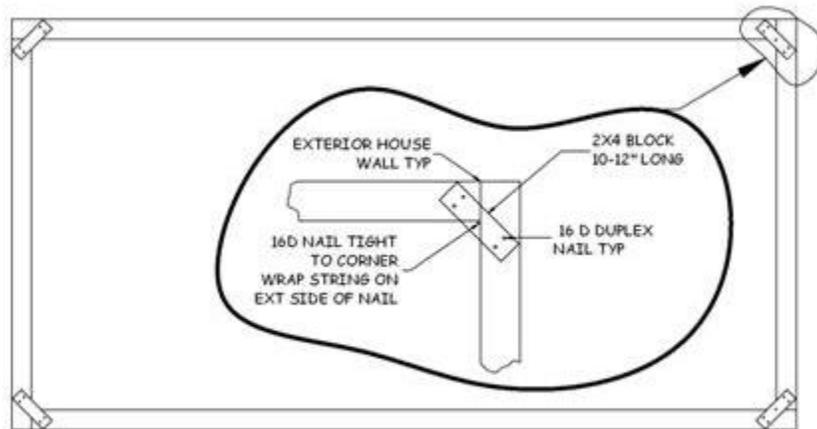

Figure 5-2. Attaching String Line.
4. At the exterior wall "inside" corner place the 2x4 on top of the 2x6 upper plates at roughly a 45° angle so that the point end of the 16d nail rests tight against the "inside" upper plates of both walls (nail resting tightly against the inside of the corner). See Figure 5-2.